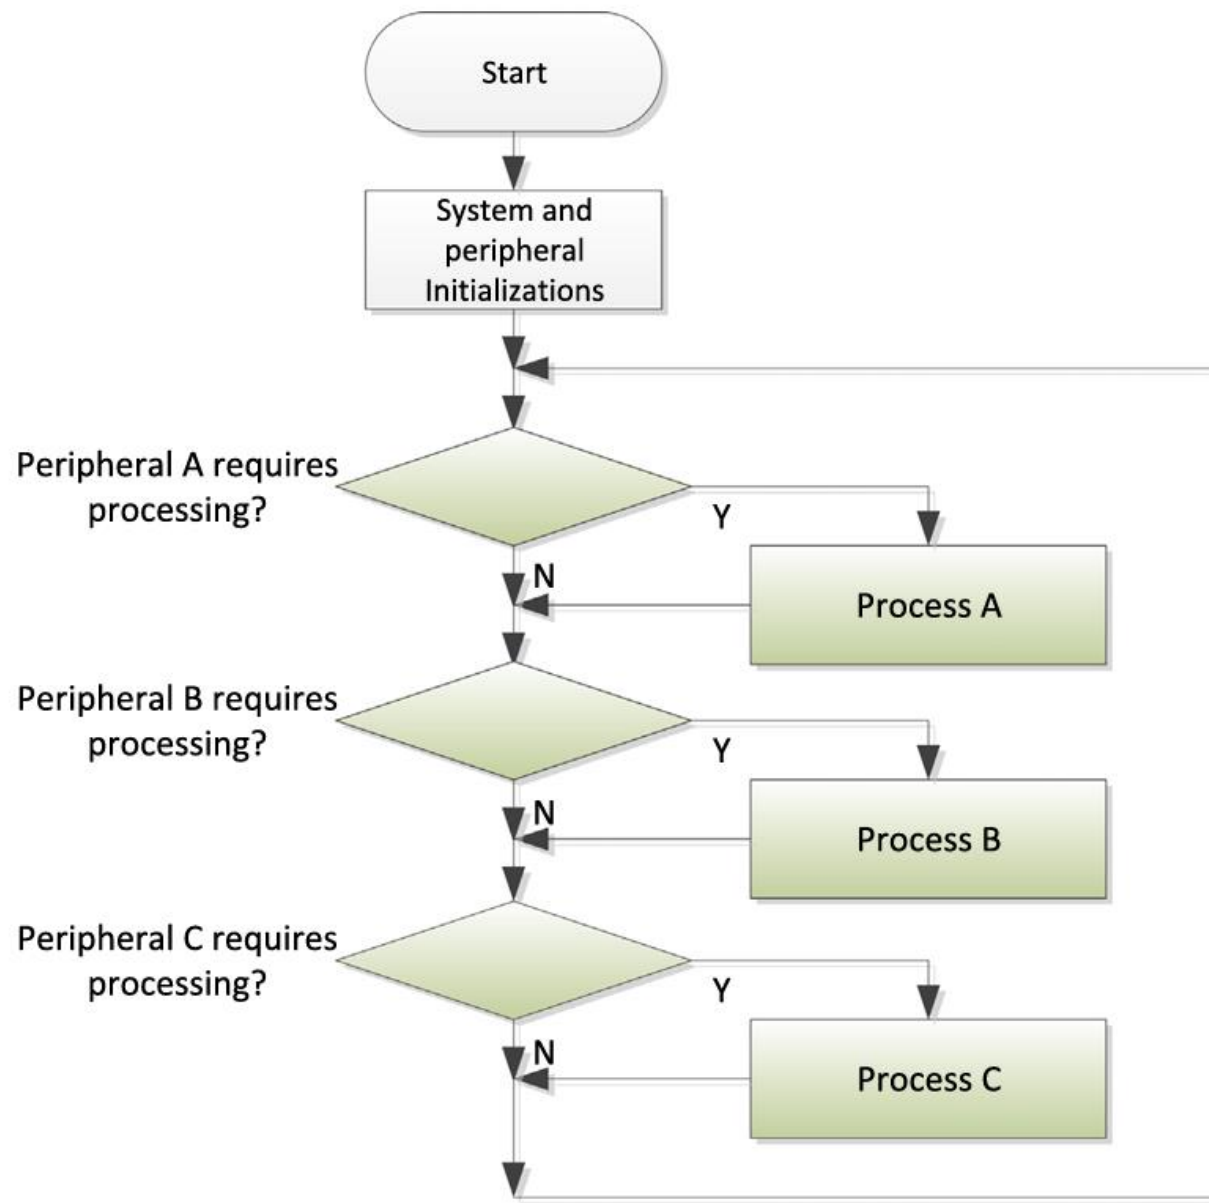

FIGURE 2.8
- The polling program flow method can be expanded to support multiple processes easily (Figure 2.8).